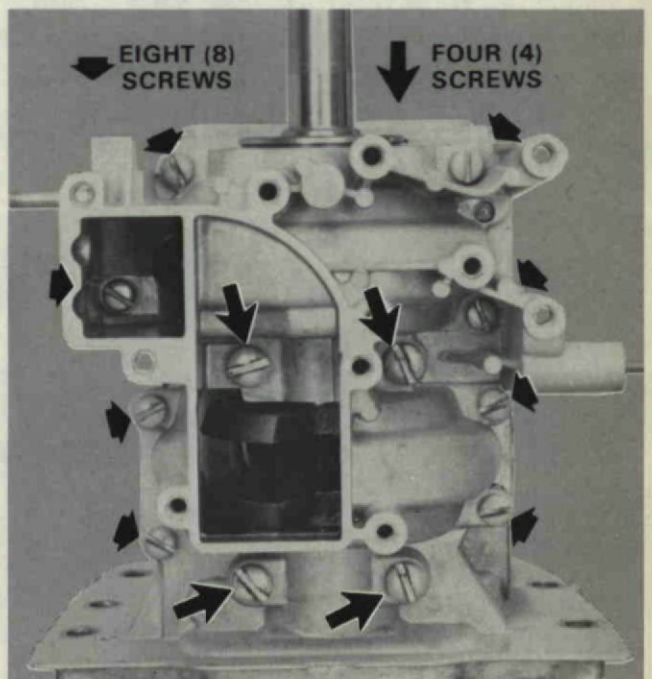

Figure 17. Removing Crankcase Cover Screws.
8. Remove three (3) taptite, washer head screws securing exhaust tube to cylinder.
10. Remove four (4) hex head screws that secure cylinder drain cover to cylinder. Remove cylinder drain cover and gasket.
11. Remove eight (8) bolts with washers that secure cylinder head to cylinder; remove cylinder head and gasket.
12. Remove three (3) screws that secure transfer port cover to cylinder. Remove transfer port cover and gasket.
A. Remove eight (8) 1/4" dia. screws and four (4) 5/16" dia. screws that secure crankcase cover to cylinder. Figure 17.